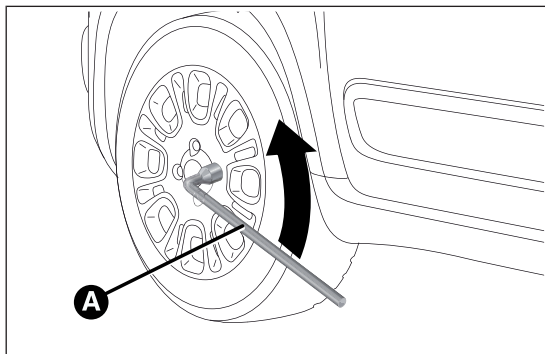

fig. 115
- ❑ take the wrench A fig. 115 and loosen the fixing bolts by about one turn;
- ☐ take the wrench A fig. 115 and fully tighten the fixing bolts;